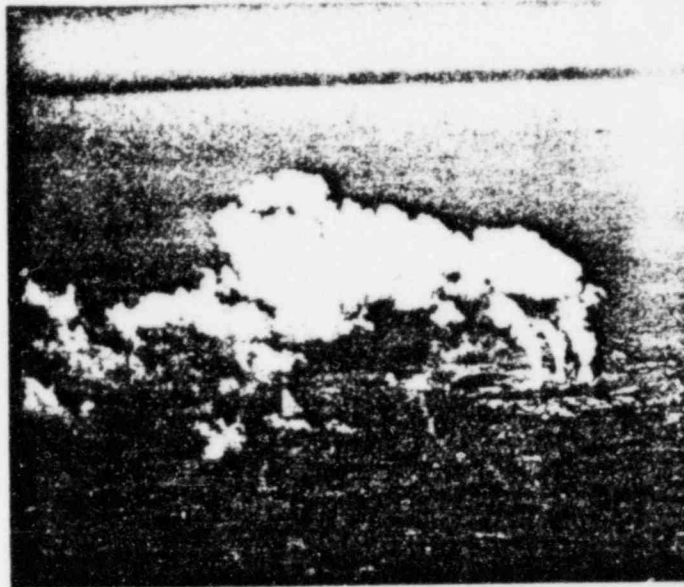

Figure 4: Extended Plumes
- 6. Occurrences by month of year - Figures 4 and 5